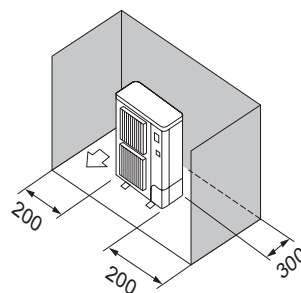

Fig. 3-8
- Obstacles at rear and sides only (Fig. 3-8)